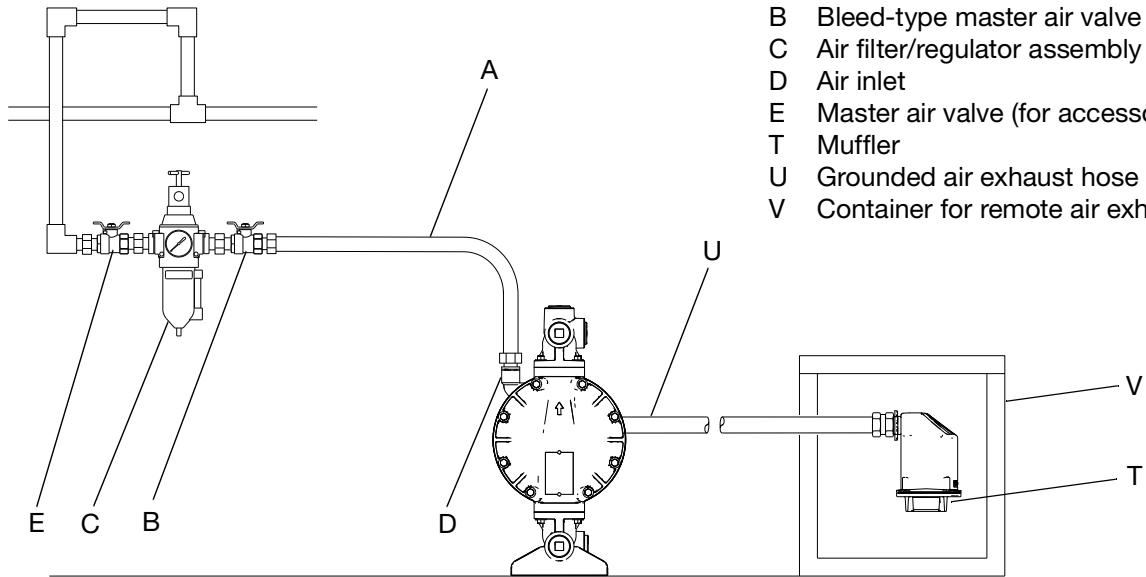

FIG. 3. Vent exhaust air
1. Connect an air supply line to the pump (A, FIG. 3, page 12).
2. Insert 5/32 OD tubing into the push-to-connect fitting on each pilot valve (113).